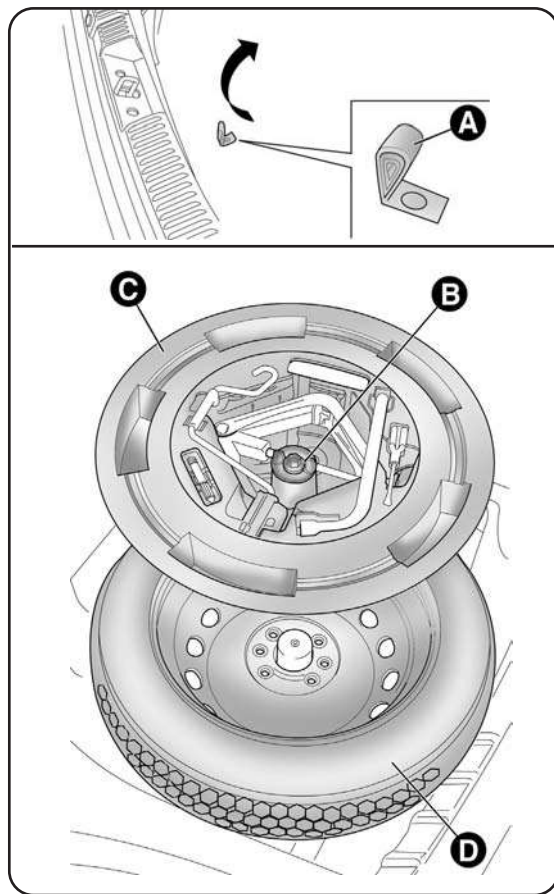

fig. 10
- open the luggage compartment, pull tab A - fig. 10 and lift up the mat;
- lift up the luggage compartment mat using handle A - fig. 10 (in the presence of a double load compartment, first lift the upper cover and then the luggage compartment mat).
- unscrew the locking device B - fig. 10;
- take out the space-saver wheel D - fig. 10;
- in the presence of a double load compartment, lift the double compartment mat and attach it to the luggage compartment mat as shown in fig. 10.
- Stow the space-saver wheel D - fig. 10 in the space provided in the luggage compartment;
- stow the container, complete with tools, in the space-saver wheel and tighten the locking device B - fig. 10;